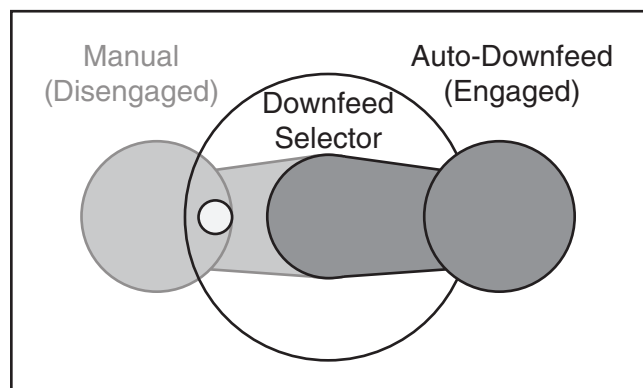

Figure 47. Downfeed selector in auto-downfeed (engaged) position.
2. Pull downfeed selector knob out, then rotate it clockwise until knob pin seats in auto-downfeed (engaged) detent (see **Figure 47**).